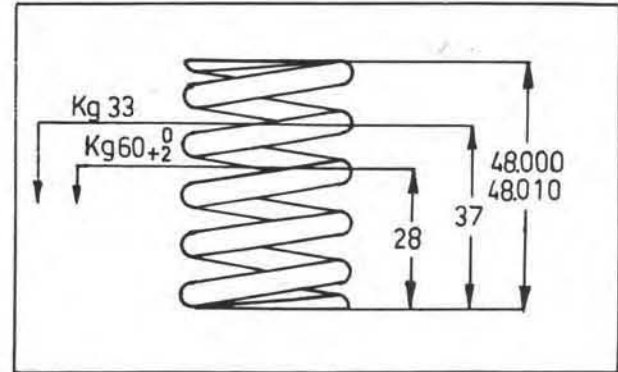

Fig. 23
**V7-700 cc.** (see fig. 23)
Springs flexibility can be checked by suitable apparatus. As to load and deformation data refer to fig. 23 and 24.